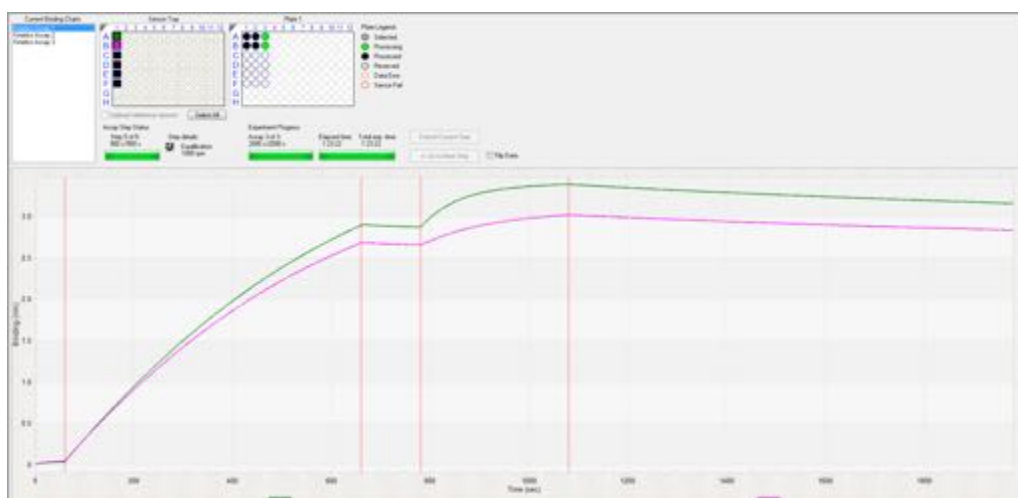

Figure 8-57: Runtime Binding Chart Window
If the **Open runtime charts automatically** check box is selected in the Run Experiment window (Figure 8-57), the Runtime Binding Charts are automatically displayed when data acquisition starts. The **Runtime Binding Chart** window displays the assay step status, experiment progress, and the elapsed experiment time.
2. Select a subset of sensors for a displayed column under **Sensors to Chart** box (see Figure 8-57).